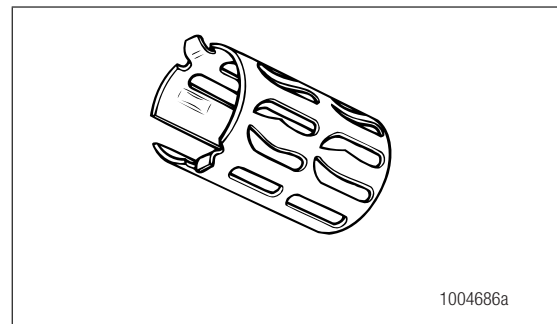

Figure 1.6
- Holds the wheel speed sensor in close proximity to the tooth wheel. Figure 1.6.